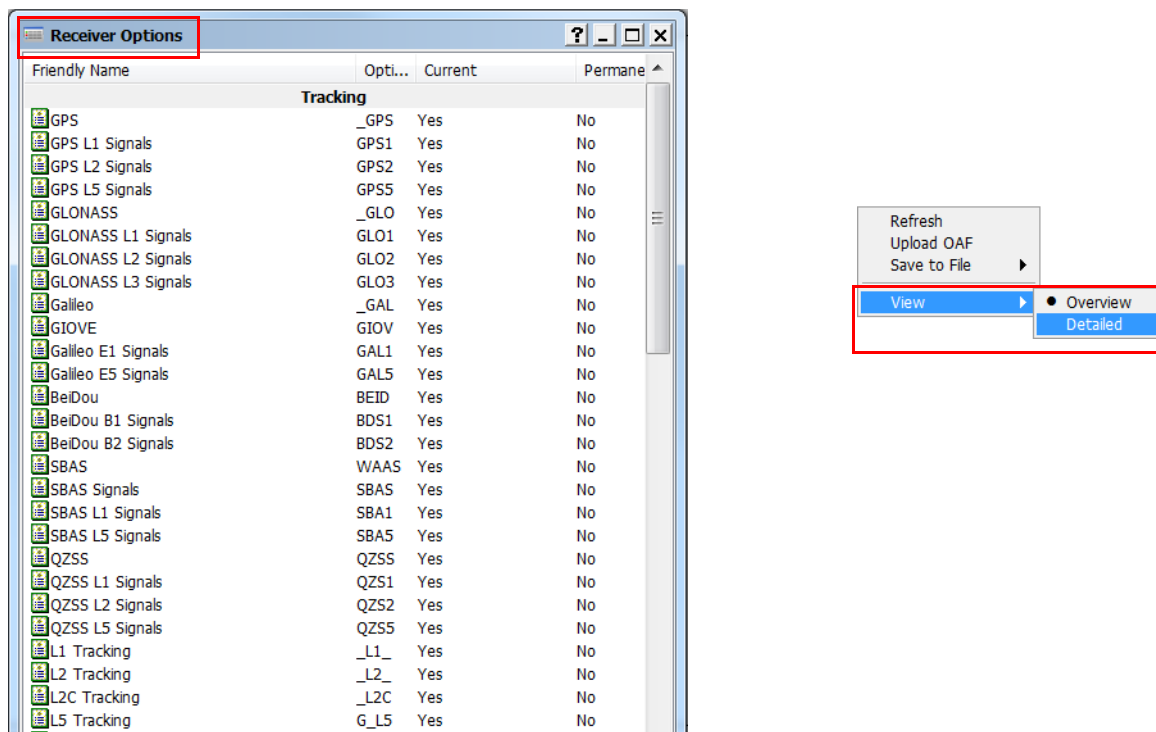

Figure 5-10: Additional OAF Details
10. To view additional OAF details, right-click in the **Receiver Options** window and select **View > Detailed** (Figure 5-10).